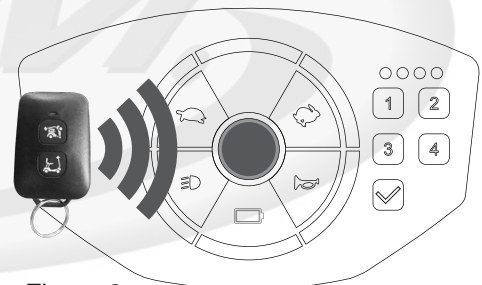

Figure 8
- To unlock, place the RF remote to the panel (spot near power button for best reading result) (Figure 8)